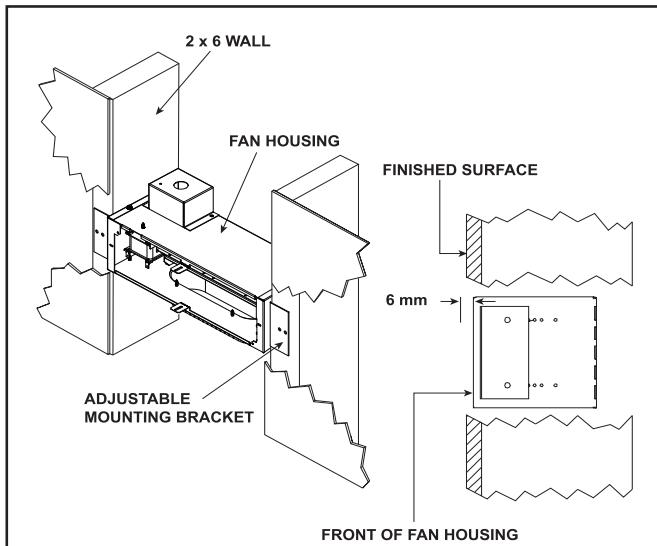

Figure 5.7 Fan Housing Mounting 2 x 6 Wall
6. Mount and secure the fan housing assembly to framing members so the front surface is 6 mm below the finished wall or floor surface. Use the adjustable mounting brackets and screws provided in the kit. See Figure 5.7.